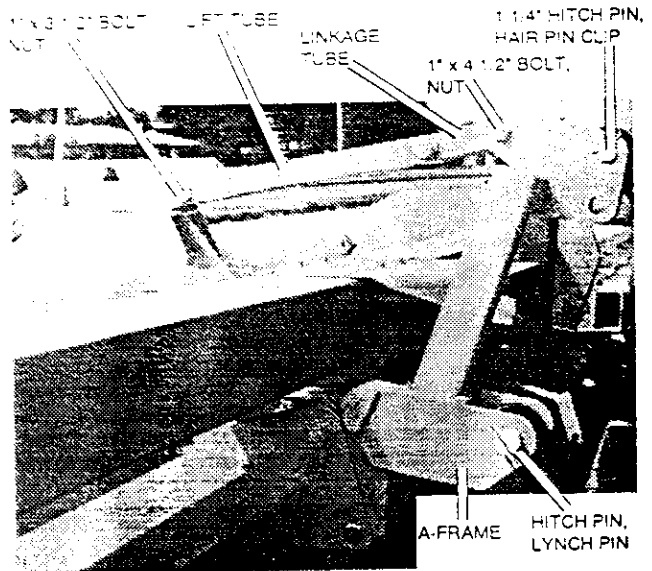

Figure B-2: Hitch Assembly of Mounted (three-point) Unit.
1. Assemble the hitch of a mounted unit as shown in Figure B-2.